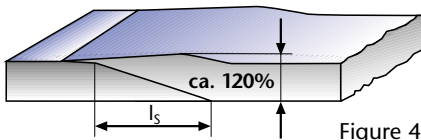

Figure 4
2.5 Close the gasket and cut off any excess material leaving a total thickness of approximately 120% of the original gasket height (figure 4).